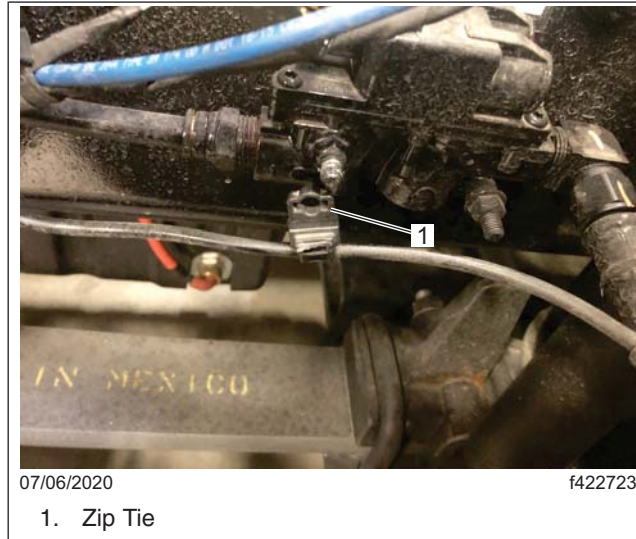

Fig. 4, ABS Zip Tie
3. Remove the antilock braking system (ABS) zip tie from the modulator mounting bolt. See Fig. 4